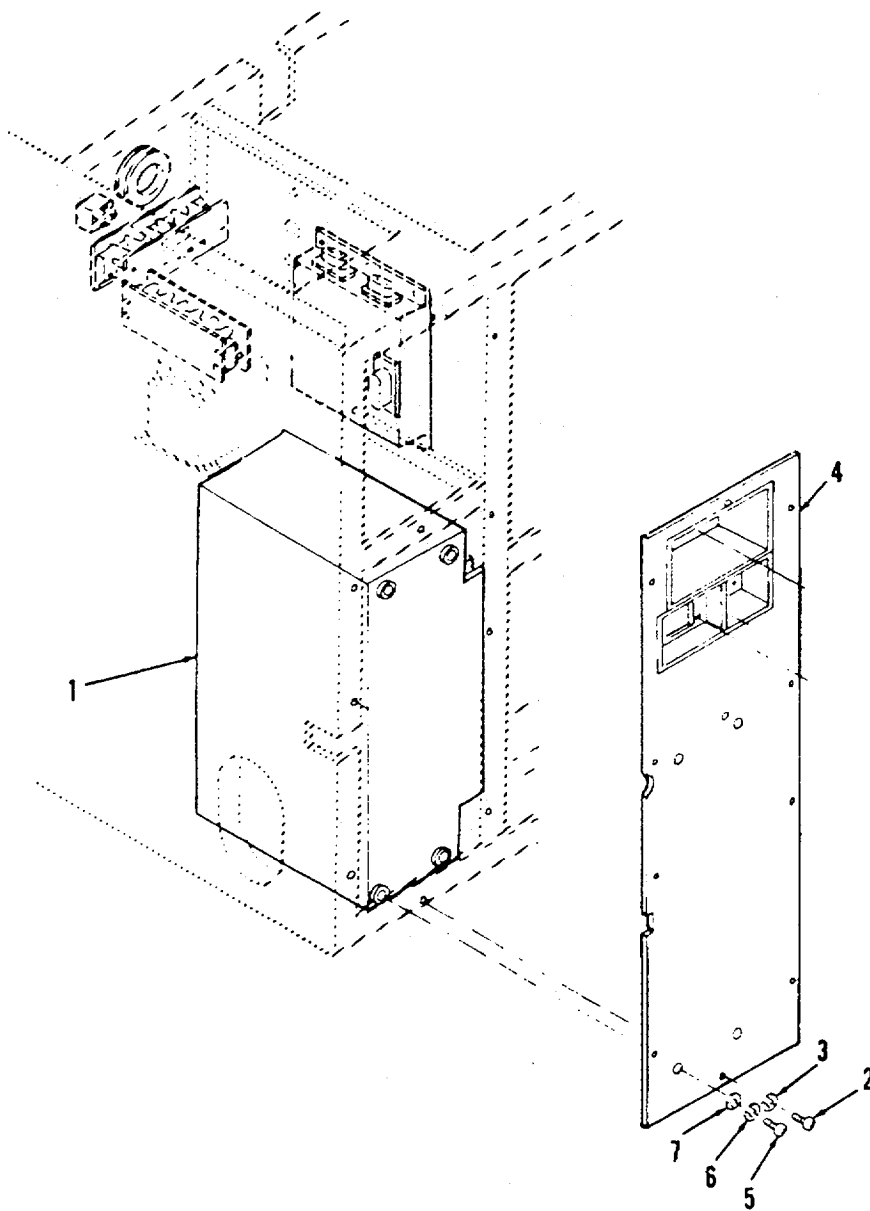

Figure 3-26. Motor Controller.
- a. **Removal.** (Refer to Figure 3-26).